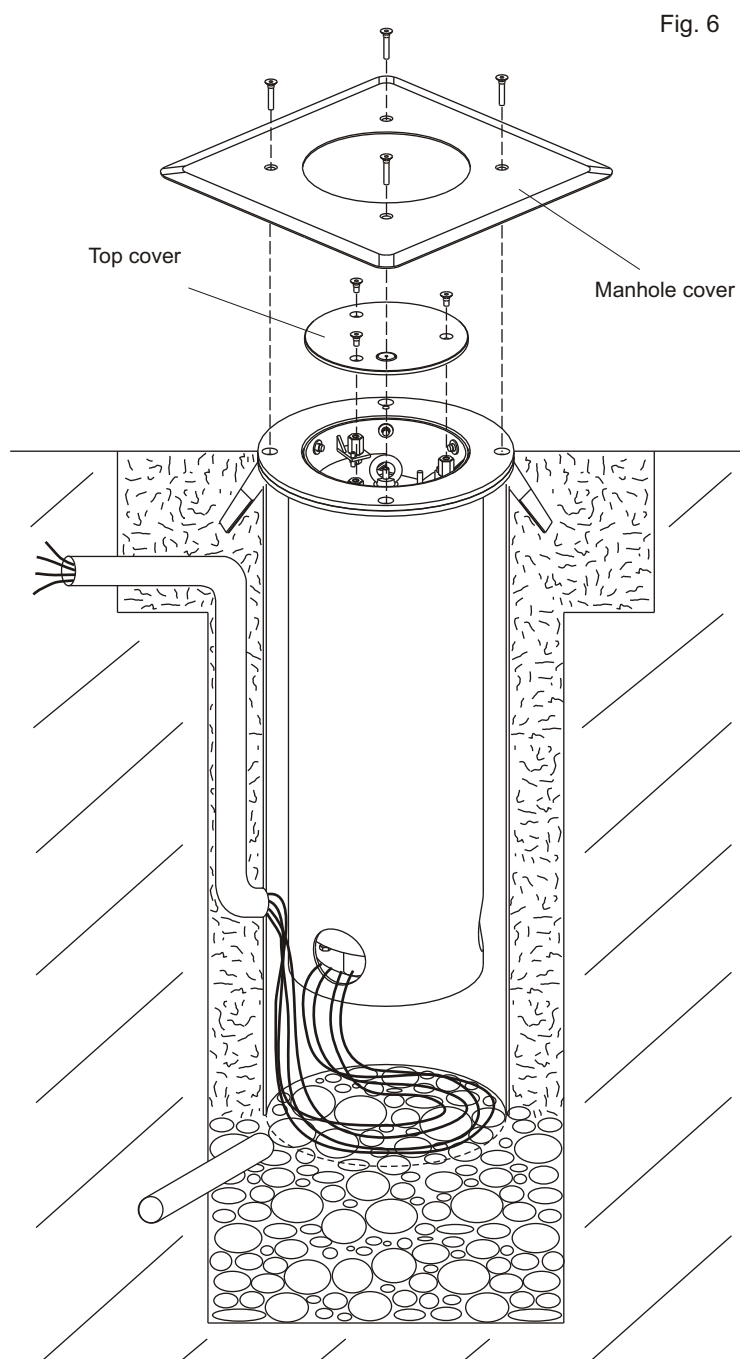

Fig. 6
2.3. Lower the bollard until it touches the foundation plate, taking care that the electric cables are positioned at the bottom of the tube (Fig. 6)
2.4. Fix the bollard to the foundation plate using the manhole cover and the 4 screws provided (Fig. 6). Afterward mount the upper manhole cover. (Fig. 6)